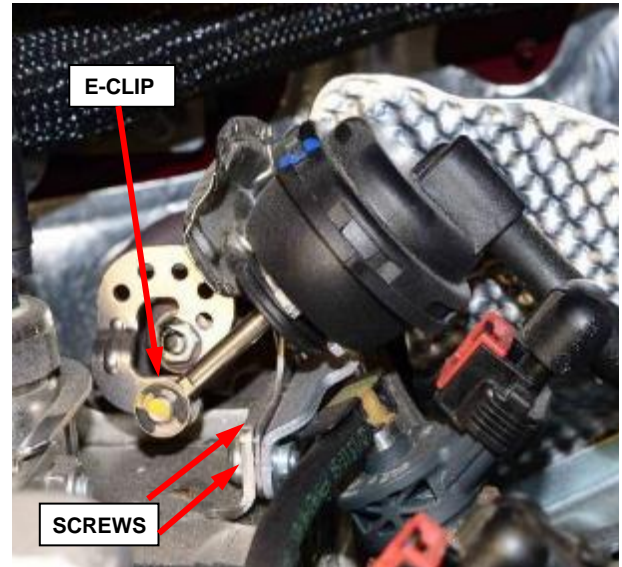

Figure 49 – EGR Cooler Bypass
90. To remove the rear injector on the right side of the engine, remove the EGR Cooler Vacuum Bypass. Remove the E-clip from shaft on the cooler, and two T25 Torx screws. Set the bypass aside with heat shield and bracket (Figure 49).